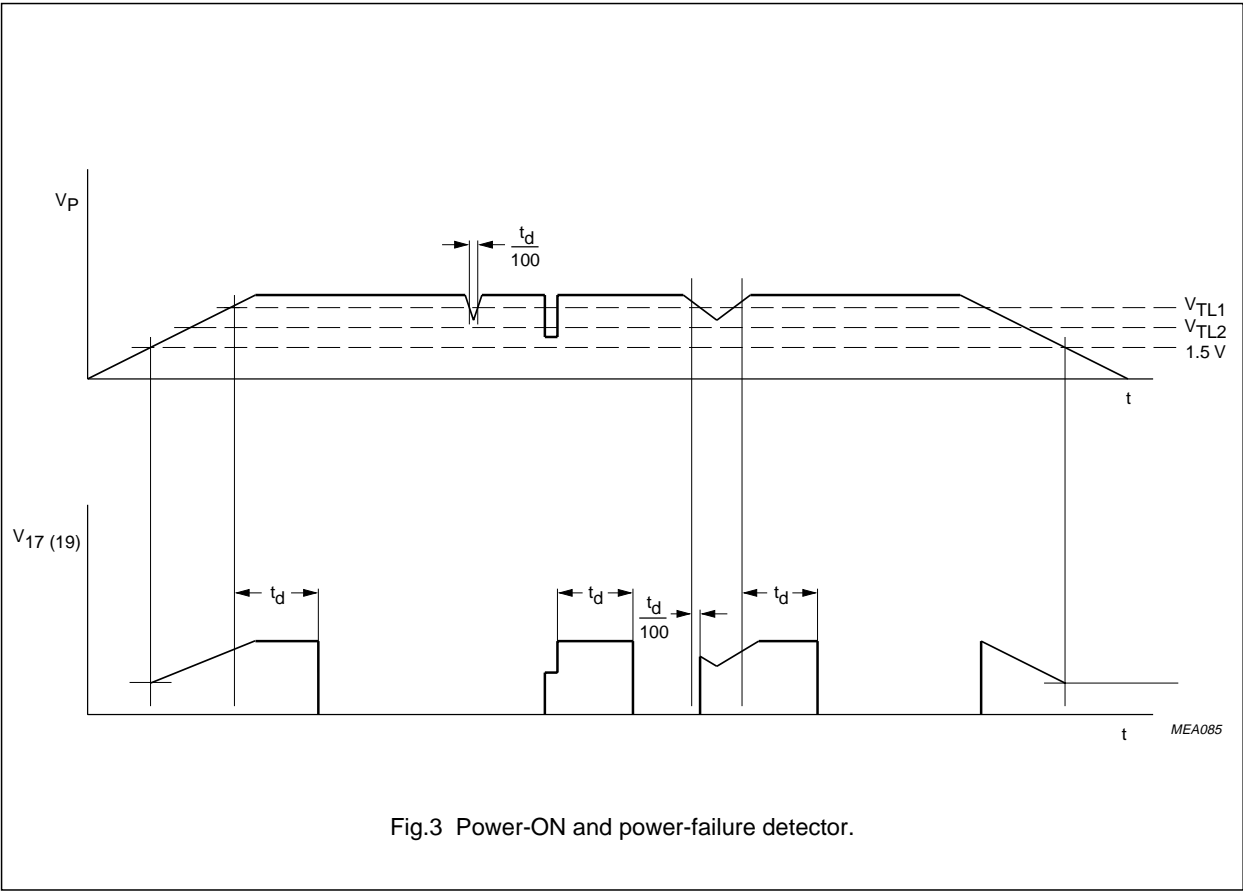

Fig.3 Power-ON and power-failure detector.
CPO/FAIL and PO/FAIL OUT pin 4 (4) and 17 (19); see Fig.3